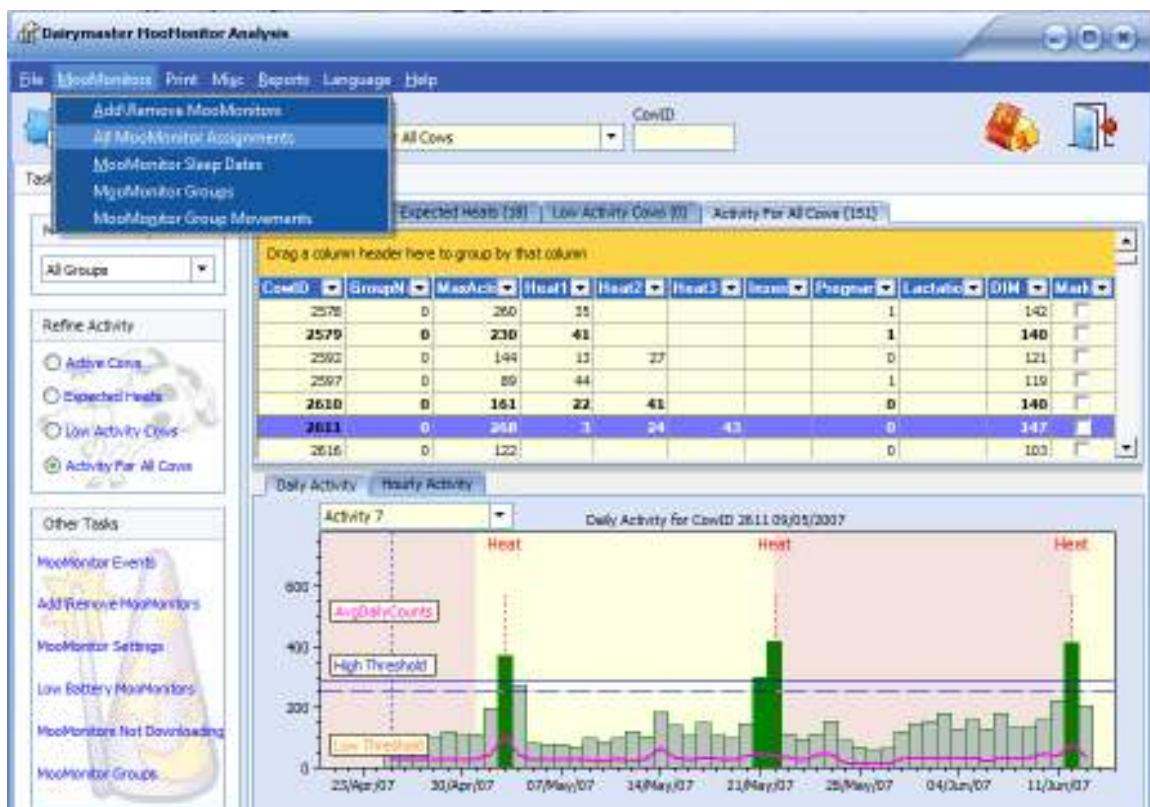

Figure 39 'All MooMonitor Assignments' menu option.
- Go to MooMonitors → All MooMonitor Assignments menu option shown in Figure 39 above.